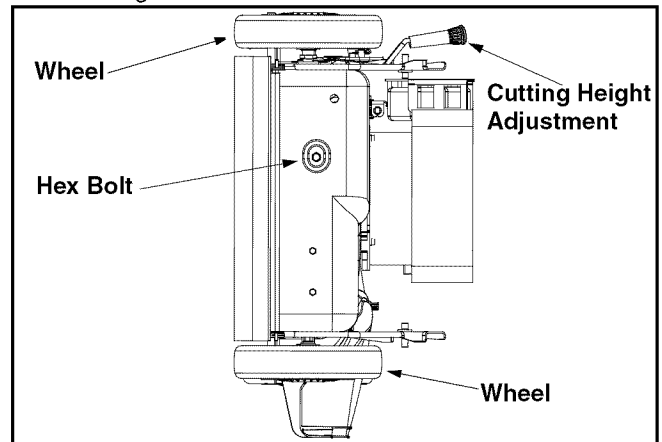

Figure 16
- Remove the hex bolt from the rear of unit holding the transmission to the mower housing. See Figure 16.